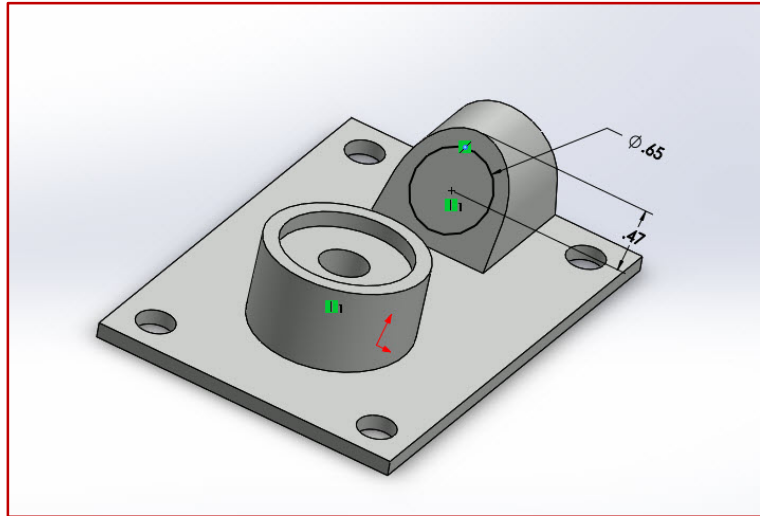

Figure 8.13 – Sketch for the Dome
- ✓ Select the Front face of the extrusion created on **Step 70** and click Circle to sketch the circle shown in Figure 8.13.